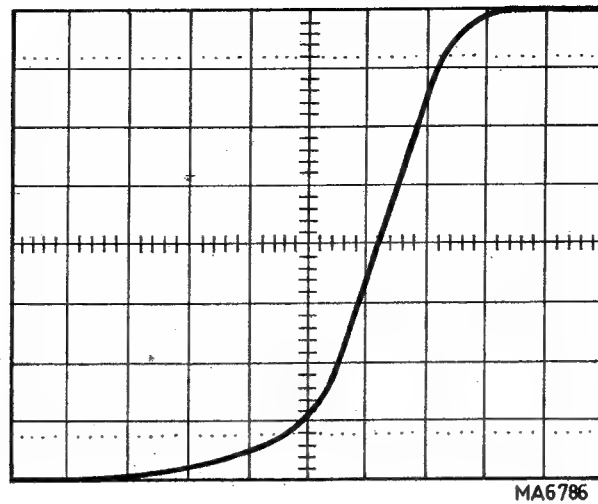

Fig. VIII-12. Enlarged display of the intensified edge which is obtained when the X DEFL switch is set to DEL'D TB
- Use the Y_A POSITION control in conjunction with the AMPL switch and AMPL potentiometer, to obtain a condition in which the edge of the displayed pulse begins on the bottom horizontal graticule line and ends at the top graticule line (i.e. the vertical deflection rises through exactly eight horizontal graticule divisions) See Fig. VIII-12.